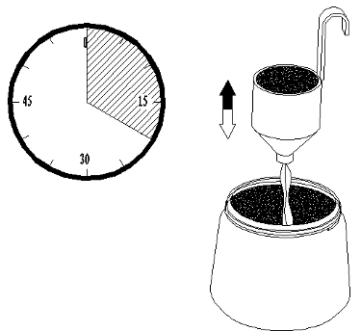

Fig 3
- Attach carrying belt to machine (**Fig.3**)